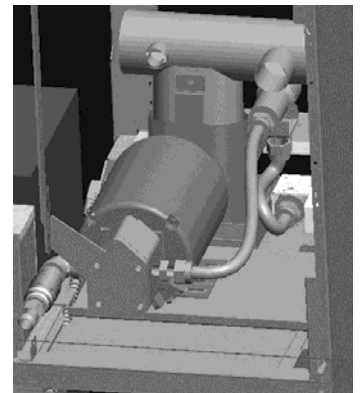

Figure 2 : Flex lines are routed from the pan pickup to the bottom of the pre-filter and from the top of the pre-filter to the pump.
7. Shape the provided flex line at the bottom of the pre-filter and route to the rear of the filter pan pickup. **See Figure 2.**
8. Shape the provided flex line for the oil flow from the top of the pre-filter to the pump and attach. **See Figure 2.**